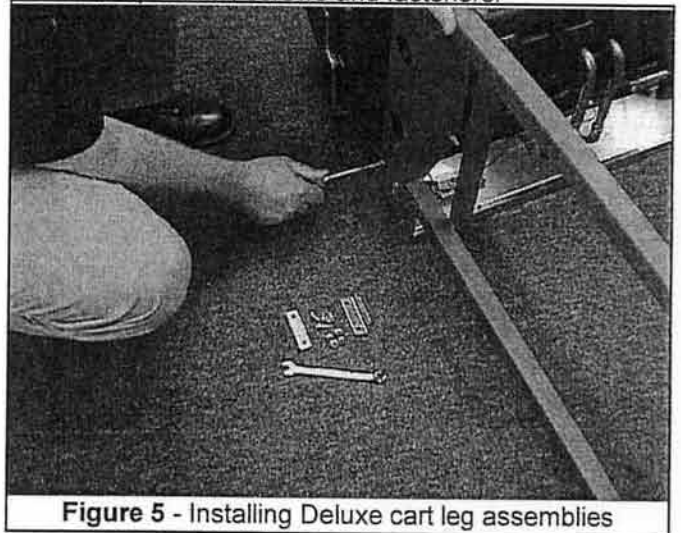

Figure 5 - Installing Deluxe cart leg assemblies
- 2) Slip right side leg assembly (short legs with axle holes) into chassis base so (2) threaded holes face out. Start upper screw into hole with phillips screw driver (Figure 5), then start lower hole. Repeat on other legs. Do not tighten.